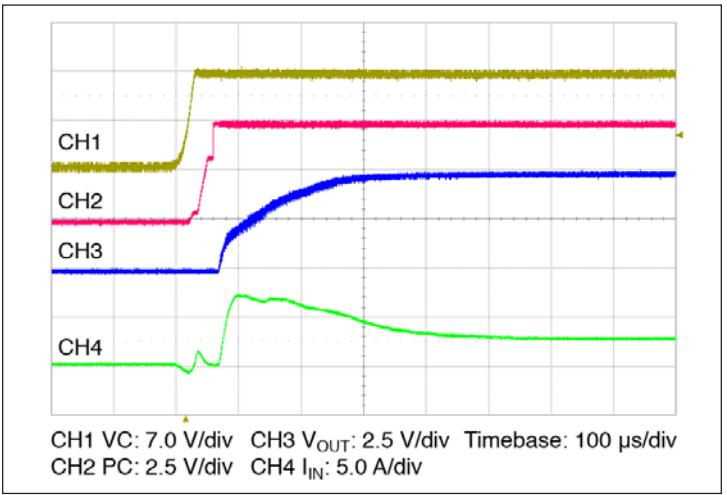

Figure 14 — Start up from application of VC ; V_{IN} pre-applied
- Stand Alone Operation (VC applied after V_{IN}): In this case the module output will begin to rise upon the application of the VC voltage (See Figure 14). The Adaptive Soft Start circuit (See Section 10) may vary the output rate of rise in order to limit the inrush current to its maximum level. When starting into high capacitance, or a short, the output current will be limited for a maximum of 900 μ sec. After this period, the adaptive soft start circuit will time out and the module may shut down. No restart will be attempted until VC is re-applied, or PC is toggled. The maximum output capacitance is limited to 2000 μ F in this mode of operation to ensure a successful start.